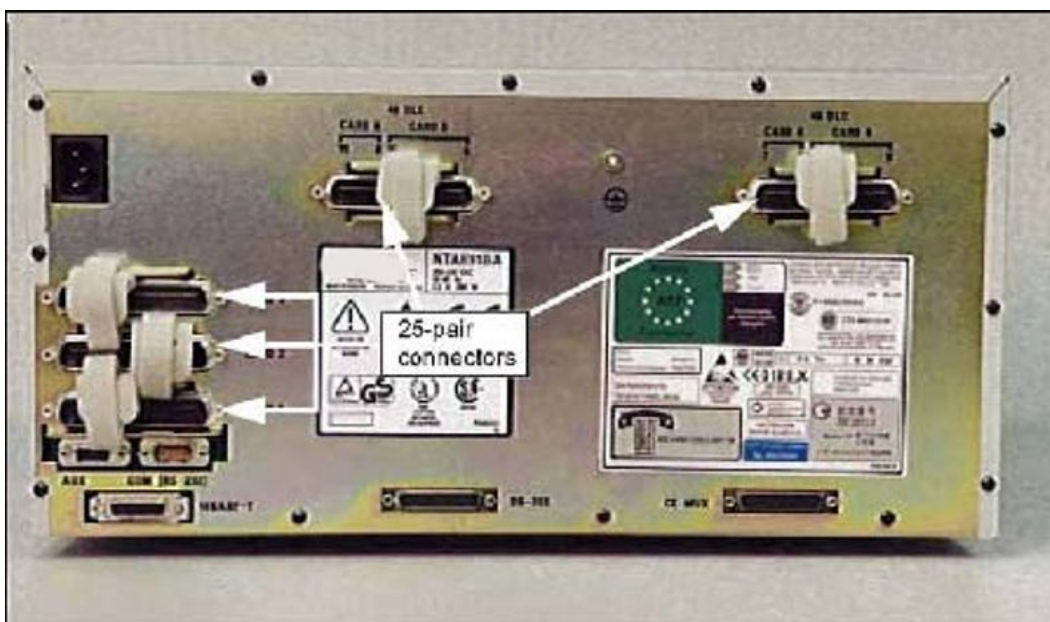

Figure 52: Chassis
2. In the chassis, connect to 15-pin DSUB connector on the back panel formerly used for the 10Base-T AUI connection. Figure 52: Chassis on page 219 shows the 10Base-T AUI connection of the chassis.